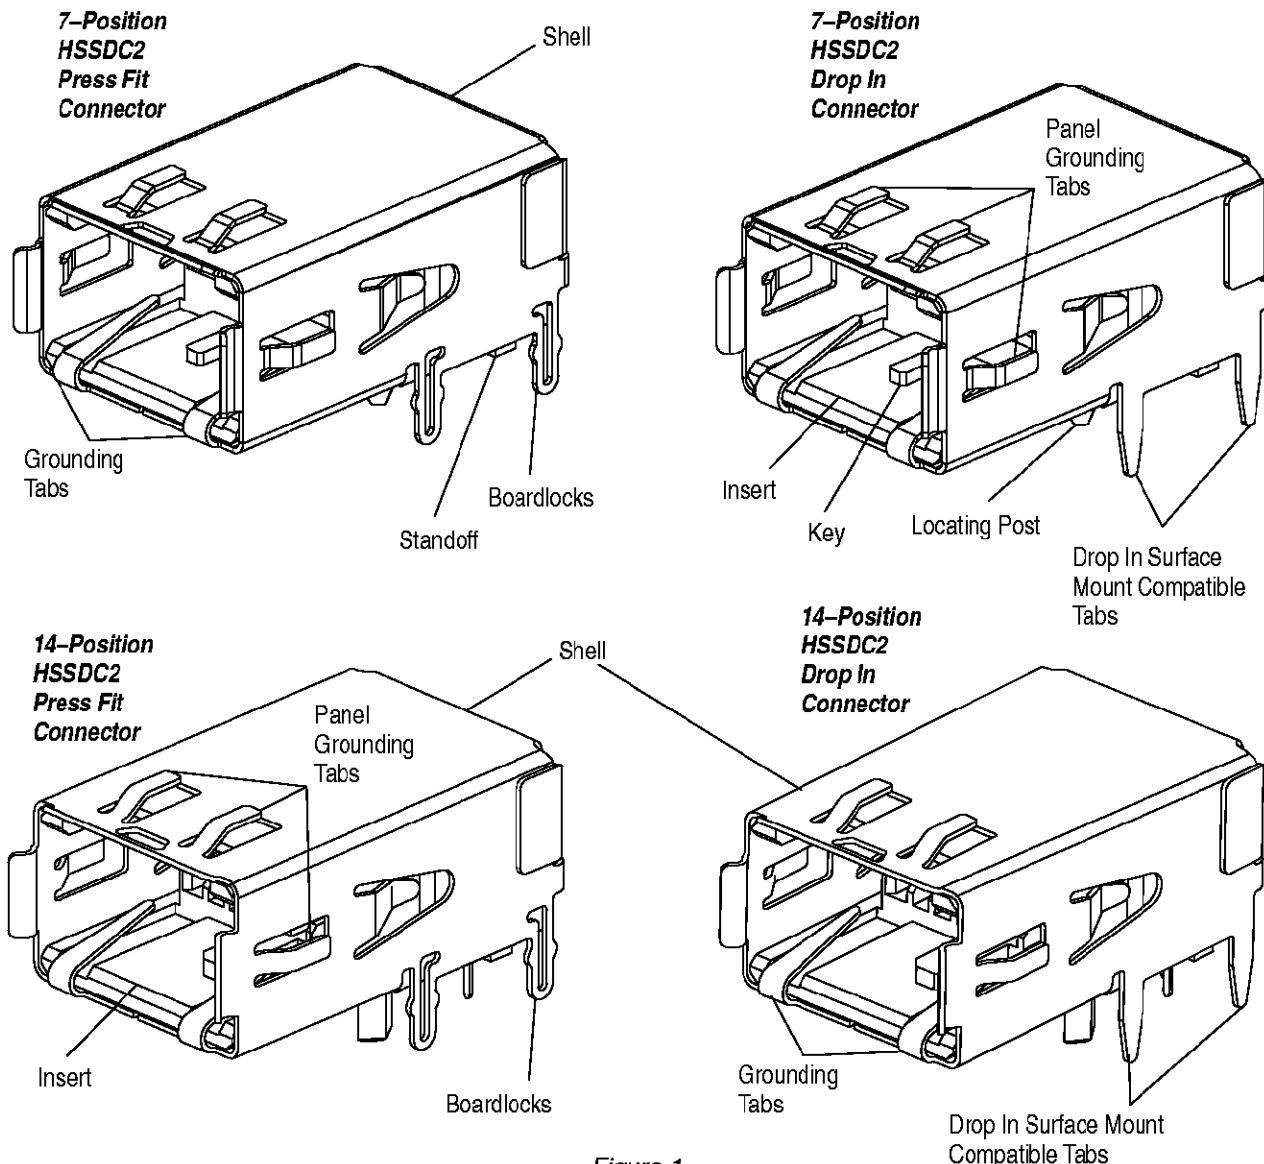

Figure 1
When corresponding with Tyco Electronics personnel, use the terminology provided on this specification to help facilitate your inquiry for information. Basic terms and features of components are provided in Figure 1.
- Added new and/or changed illustrations in Figures 1, 2, 4, 6, 9, 11, 14 and related callouts
When selecting an HSSDC2 receptacle assembly, care must be taken to make sure that the key matches the key of the plug assembly. See Figure 1. HSSDC2 receptacles are available with INFINIBAND standard keying or Fibre Channel standard keying as well as other optional key configurations. For example, these keys prevent the mating of an INFINIBAND standard keyed plug to a Fibre Channel standard keyed receptacle.